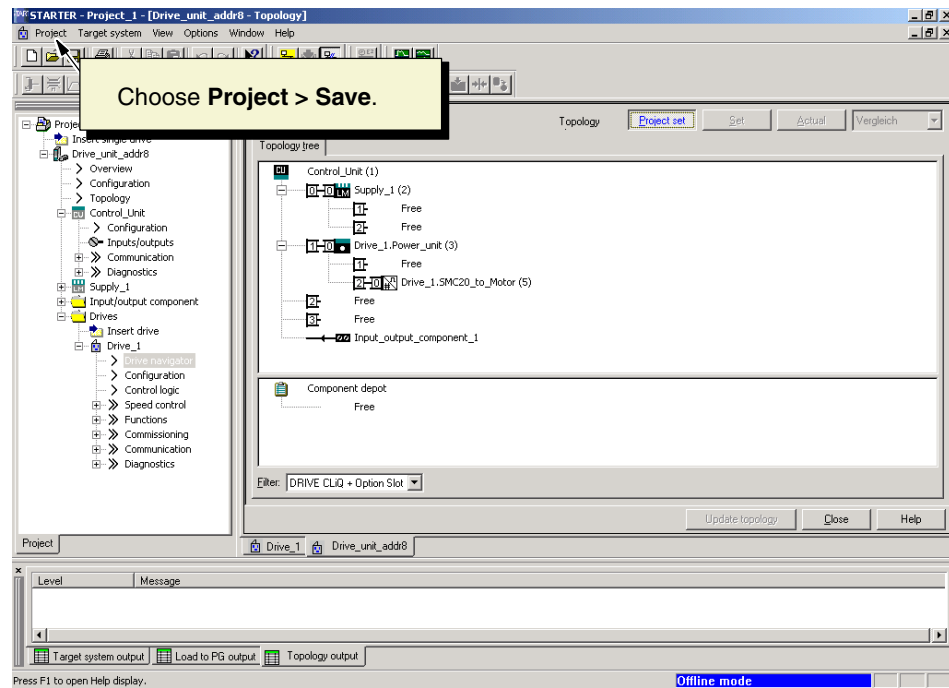

Fig. 5-18 Topology tree
10. In this window, check the topology and DRIVE-CLiQ connection and compare this with the actual topology (see Fig. 5-18).